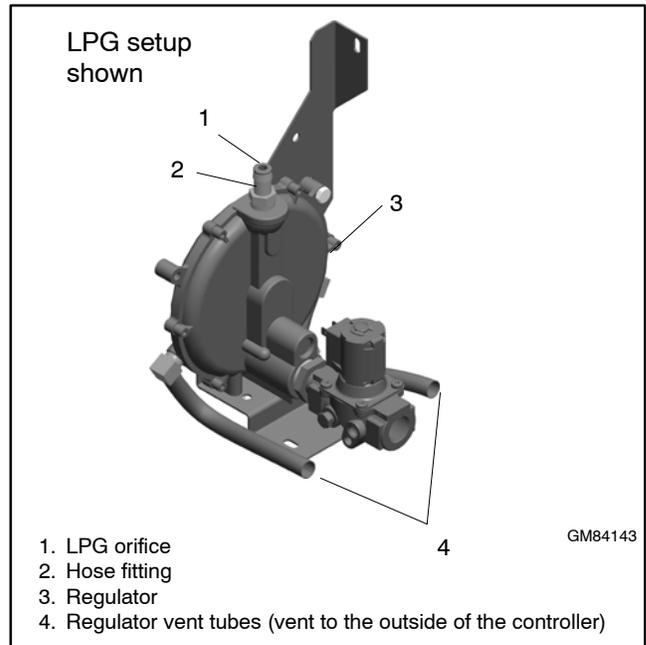

Figure 1-13 Fuel Regulator and LPG Orifice, 20RESA/RESAL/RESC/RESCL
For LPG fuel, an orifice is used in the fuel line. The unit is typically shipped set up for natural gas, with the loose orifice tied near the fuel solenoid valve. To convert to LPG, install the LPG orifice as described below. See Figure 1-13 for the fuel system component locations.
5. Remove the hose clamp and fuel hose from the hose fitting. See Figure 1-13.
6. Insert the LPG orifice into the hose fitting. See Figure 1-13.